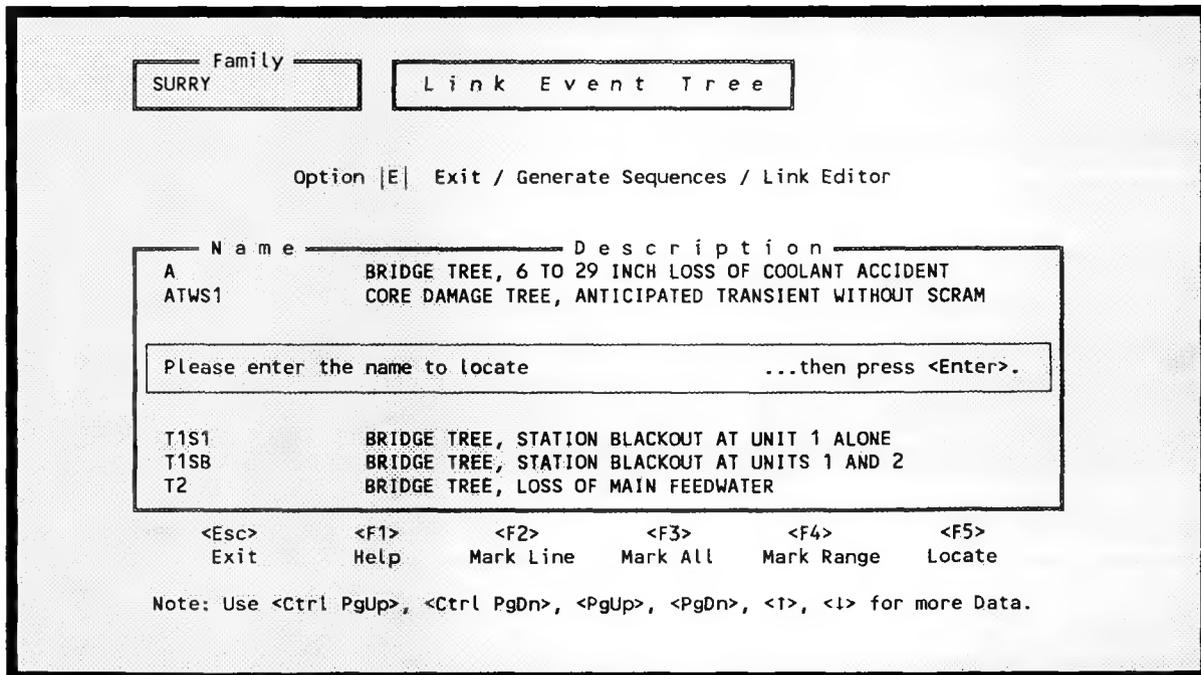

Figure 239. Locate a specific system using <F5>.
- <F5> Allows you to locate a specific file for further processing. When you invoke this function, Figure 239 will be displayed. Enter the file name to locate and press <Enter>. The specified file will be highlighted. If the file name does not exist, an error message will be displayed and you will be returned to the previous screen.